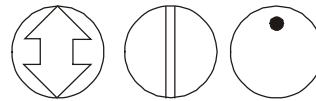

Figure 3: Damper Position Icons
- Make sure that the damper blade is visually accessible or its position is permanently marked on the end of the damper shaft as shown in Figure 3.)